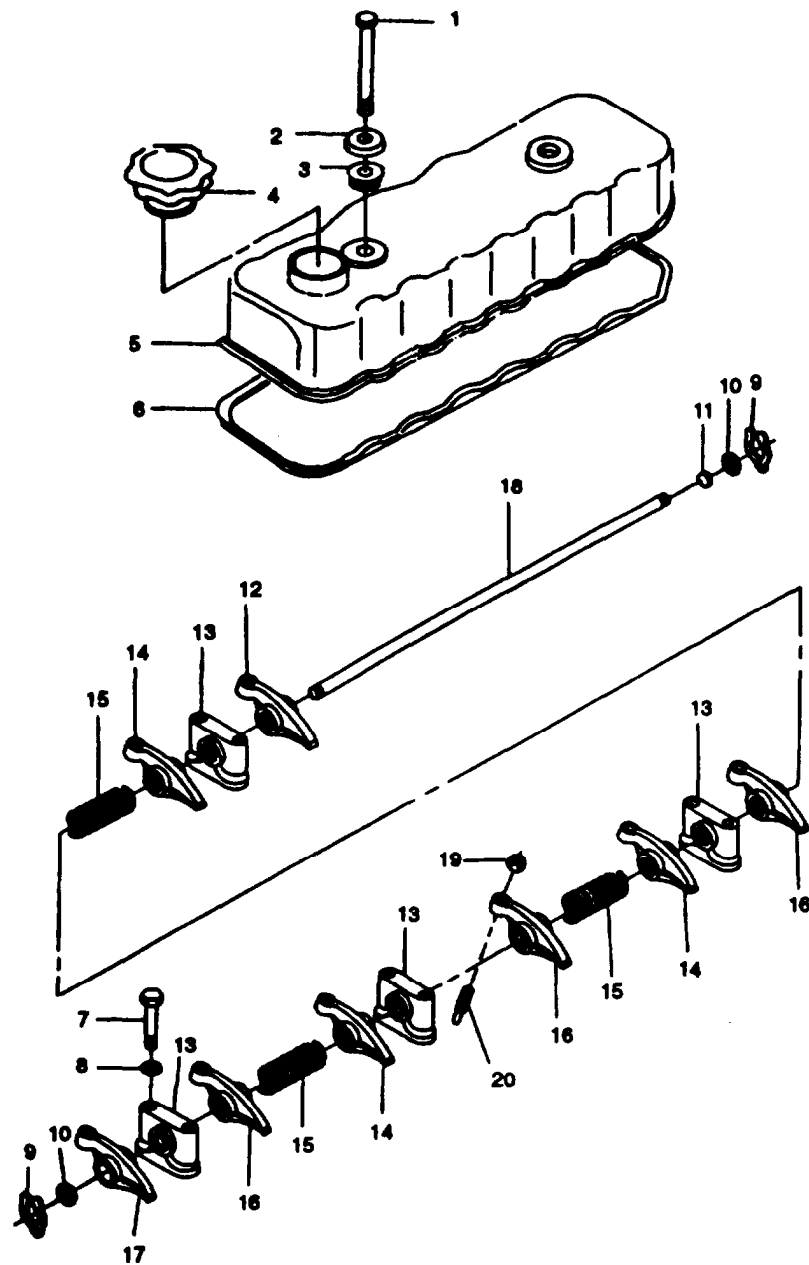
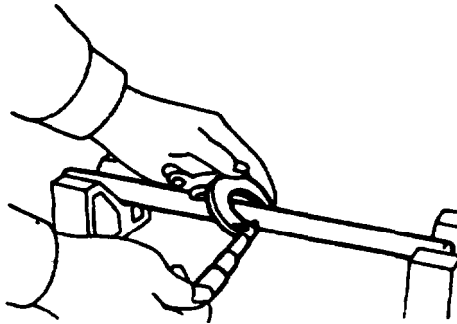

FIGURE 3-52. Rocker Cover and Arms
FIGURE 3-55. Rocker Arm Shaft Outside Diameter
Rocker arms (12, 14, 16, and 17) each have a different shape. Be sure to install them in their correct location (refer to Figures 3-52 and 3-53) as viewed from front.
- b. Remove two bolts (1, FIGURE 3-52) washers (2), and gaskets (3) securing rocker cover (5); remove rocker cover (5) and preformed packing (6). Discard two gaskets (3) and preformed packing (6).
- c. Loosen eight nuts (19) and loosen adjusting screws (20) until the adjusting screws (20) just touch pushrods.
- f. After all bolts have been loosened, remove eight bolts (7, FIGURE 3-52) and washers (8). Remove rocker arm assembly.
- a. Remove two retaining rings (9, FIGURE 3-52) and washers (10) from each end of shaft (18).
- b. Remove eight rocker arms (12, 14, 16, and 17) four retaining plates (13) and three springs (15) from shaft (18).
- a. Check rocker arm shaft (18, FIGURE 3-52) run-out as follows:
- (2) Use a dial indicator to measure shaft central portion run-out. Limit on run-out is 0.024 in. (0.6 mm). If run-out exceeds limit, replace shaft. If run-out is very slight, an arbor press may be used to correct shaft. Shaft must be cold.
- b. Use a micrometer and measure rocker arm shaft outside diameter, refer to FIGURE 3-55. The standard diameter is 0.747 to 0.748 in. (18.98 to 19.0 mm), with a limit of 0.744 in. (18.90 mm). If measured value is less than limit, replace rocker arm shaft (18, FIGURE 3-52).
- c. Use either a vernier caliper or a dial indicator and measure rocker arm (12, 14, 16, and 17, FIGURE 3-52) bushing inside diameter. The standard diameter is 0.749 to 0.750 in. (19.036 to 19.060 mm), with a limit of 0.752 in. (19.10 mm). If measured value exceeds limit, replace rocker arm.
- d. Clearance between rocker arm shaft 00 and rocker arm bushing ID standard value is 0.0016 in. (0.04 mm). If clearance exceeds 0.008 in. (0.20 mm), replace either rocker arm shaft (18) or rocker arm (12, 14, 16, and 17).
- a. Use compressed air to thoroughly clean rocker arm shaft (18, FIGURE 3-52) and rocker arms (12, 14, 16, and 17) oil ports.
Rocker arms (12, 14, 16, and 17) each have a different shape. Be sure to install them in their correct location (refer to FIGURES 3-52 and 3-53) as viewed from front.
- e. Install retaining ring (9) and washer (10) on one end of shaft (18). This will be back end of shaft (in relation to engine).
- f. Install one rocker arm (12), three rocker arms (14) three rocker arms (16), one rocker arm (17), four retaining plates (13) and three springs (15) following the sequence shown in FIGURES 3-52 and 3-53. Start with rocker arm (12) and finish with rocker arm (17) (front of engine). Retaining plates are marked with an 'F' and this side must face the front of engine.
- g. Install washer (10) and retaining ring (9) on end of shaft (18)
- a. Position rocker arm assembly on cylinder head and secure four retaining plates (13, FIGURE 3-52) with two bolts (7) and washers (8) each. Tighten bolts to 168 in-lbs (19.0 Nm) in sequence shown in FIGURE 3-58.
- a. Remove rocker cover (5, FIGURE 3-52) if not already removed, refer to paragraph 3-26.1.
- b. Ensure all eight retaining plate bolts (7) are tight. If not, tighten in accordance with paragraph 3-26.5.
- (1) Loosen nut (19, FIGURE 3-52) and adjusting screw (20).
- h. Install rocker cover (5, FIGURE 3-52) refer to paragraph 3-26.5.